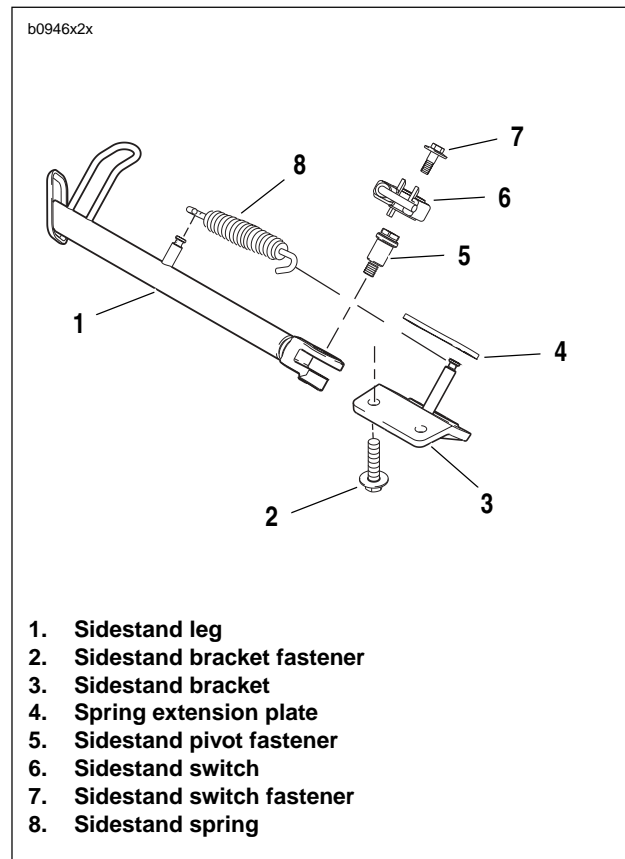

Figure 2-120. Sidestand Assembly
2. See Figure 2-120. Remove sidestand switch (6). See SIDESTAND SWITCH REMOVAL in this section.
3. Remove fasteners (2) securing sidestand bracket (3) to frame.
1. See Figure 2-120. Remove fastener (7) securing sidestand switch (6).
2. Remove spring (8).
3. Remove sidestand pivot bolt (5).
1. See Figure 2-120. Lubricate sidestand pivot bolt (5) and mating portions on sidestand bracket.
2. Install sidestand pivot bolt (5) tightening to 18-20 ft-lbs (24-27 Nm).
3. Install spring extension plate (4) and spring (8).